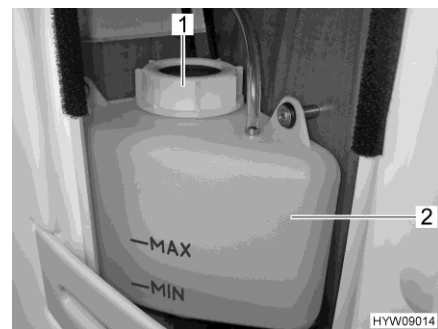

Fig. 179 Marking "MIN/MAX"
- Check if the fluid level is between the marks "MIN" and "MAX" on the compensator reservoir (Fig. 179,2).
- Open the rotary lid (Fig. 179,1) on the compensator reservoir.